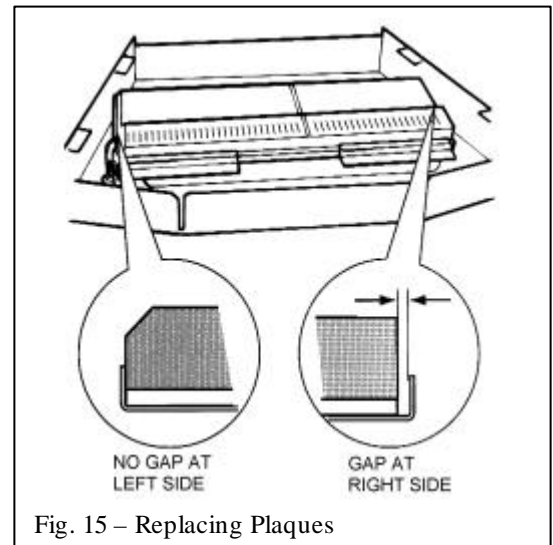

Fig. 15 – Replacing Plaques
- Place the new left hand plaque in position. The left side of the plaque must touch the inside edge of the retaining flange at the left side of the burner well. ***It is important that the plaque is accurately positioned so that it has the correct relationship to the pilot - See figure 15***